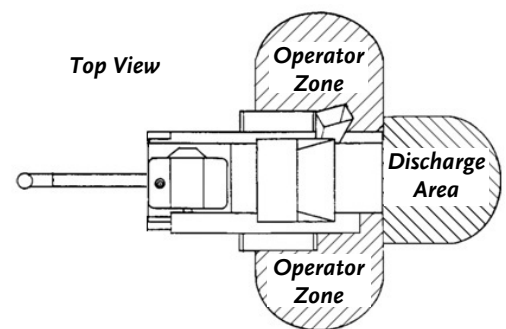

Figure 11
- When viewed from the Chipper Hopper side (Operator Zone, **Figure 11**), the Flywheel turns in a clockwise direction.
- ALWAYS operate the DR Chipper w/Shredder from the Operator Zone shown in (**Figure 11**).
- ALWAYS stop the Engine when leaving the Operating Zone (**Figure 11**) or when moving the machine.